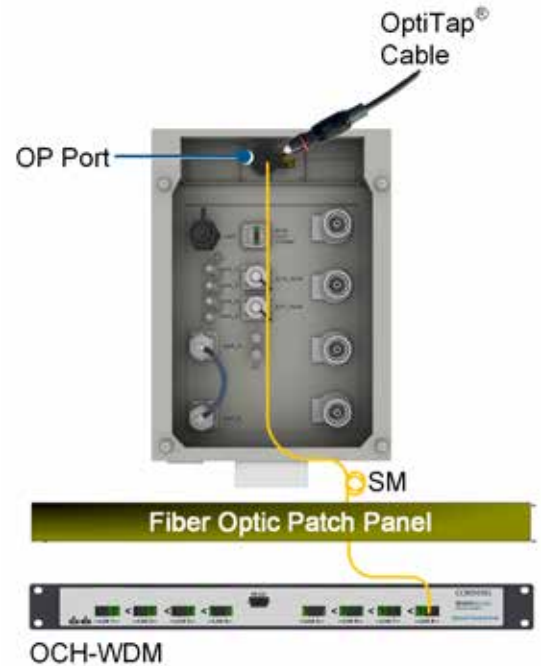

Figure 14. GX Fiber Connection
**Step 2:** Referring to Figure 14, connect OptiTap cable to splice box and to the GX OP OptiTap port.